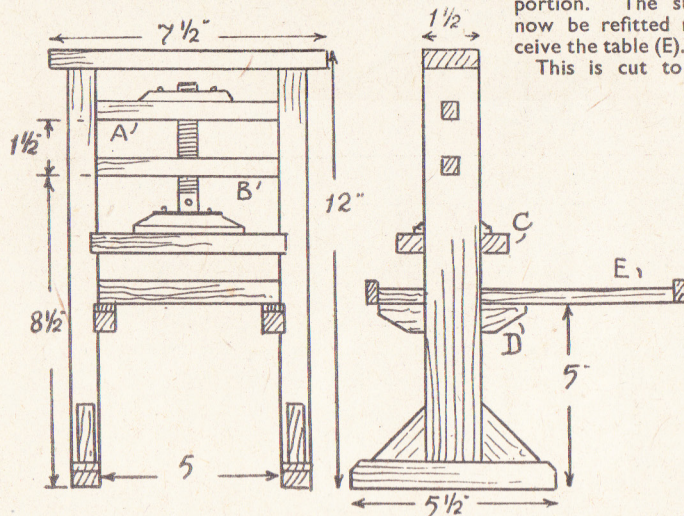

Fig. 1—Front and side view of complete model
A front and side view of the model are shown at Fig. 1. The actual length and thickness of parts, not given in the text, are provided in the cutting list at the end of the article. The upright posts are mortised and tenoned into the feet and top crossbar. The bars (A) and (B), through which the screw, which operates the platen (C) works, are also tenoned into the posts.